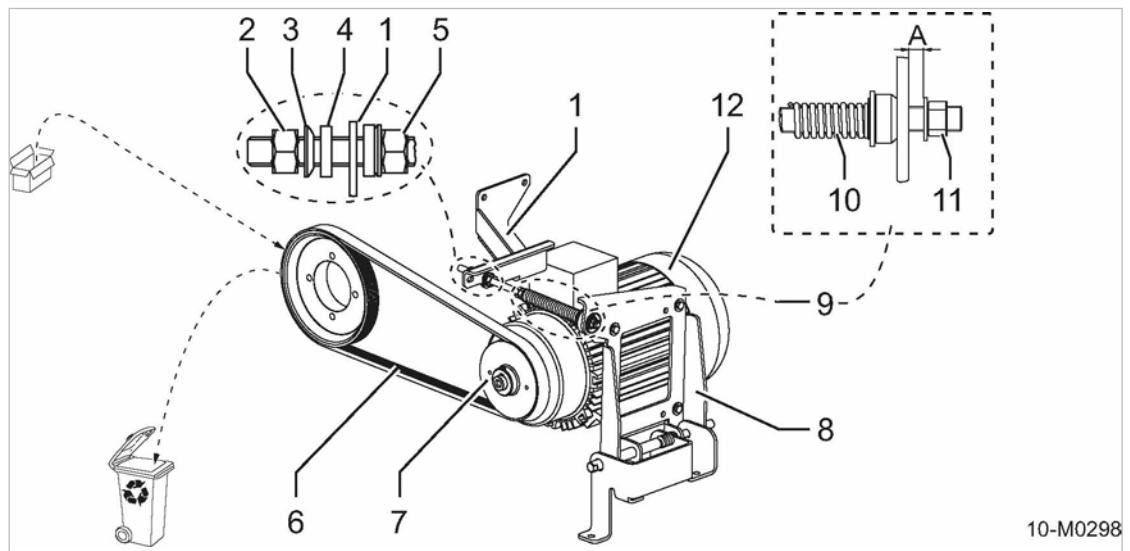

Fig. 92 Generator belt tensioning
The tensioning device uses spring force to apply correct tension to the belts over a certain range. The tensioning dimension (A) is controlled by adjusting the belt (see fig. 92).